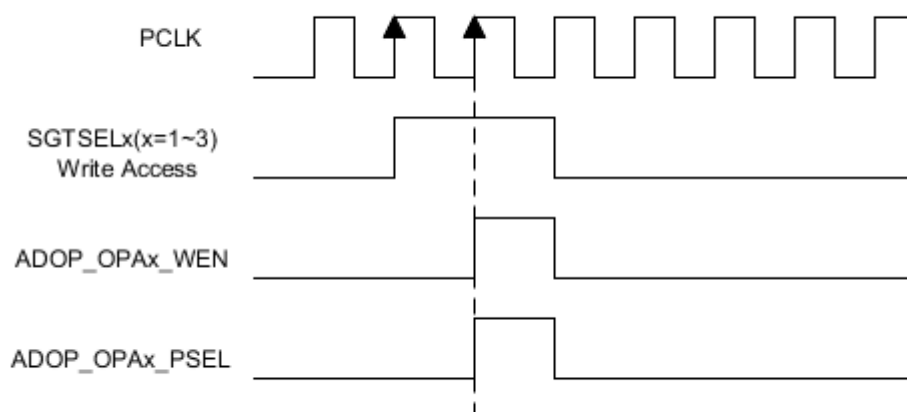

**Figure 6.5: Interrupt output behavior of SARAD113x**
- (1) Refer to HWM[2] chapter: 1.16.4, 1.16.8, 1.16.9, 1.16.16, 1.16.17.
- (2) The Figure 6.5 shows the interrupt behavior of SARAD113x model. In SARAD113x model, there are Scan end interrupt, Error interrupt and Upper/Lower bound error interrupt. These interrupts are asserted after 1PCLK period from the time A/D conversion data is updated to DRj register.
- (3) Each group has corresponding scan end interrupt. The scan end interrupt indicate the virtual channel of a scanning group finished A/D conversion process if VCRj.ADIE of this channel is set to 1. The scan end interrupt indicate finish a scanning group finish A/D conversion of all virtual channel if SGCRx.ADIE is set to 1. For TSN and PWD-Diag, the scan end interrupt is always asserted. The interrupts is deasserted after 1 PCLK period.
- (4) In case there is overwrite error or upper/lower bound error and enable bit is set to 1, the INT\_ADE interrupt is asserted for 1 PCLK period.
- (5) The ULE interrupt error is level interrupt, it is asserted when there is upper/lower bound error occurred. The ULE interrupt is deasserted when the error flag is cleared or enable bit is cleared to 0.